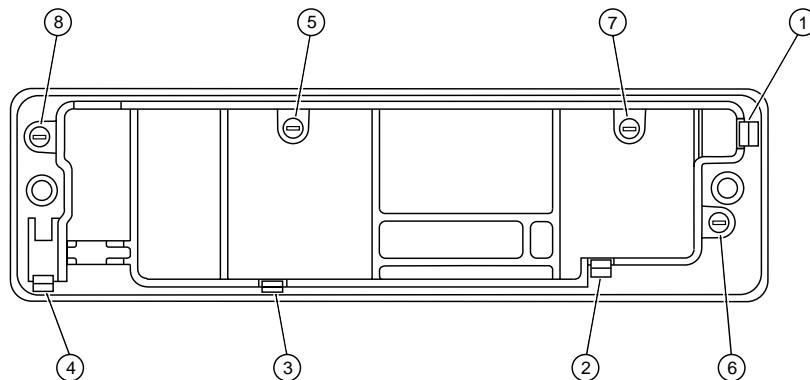

Figure 5-2. Model W4 Rotary Control Head Assembly Screw and Snap Sequence
- W4 Control Head: four screws [callouts 5-8], as shown in Figure 5-2.
- The W4 control head has, in addition to the screws, four snap features [callouts 1-4], which are shown in Figure 5-2.